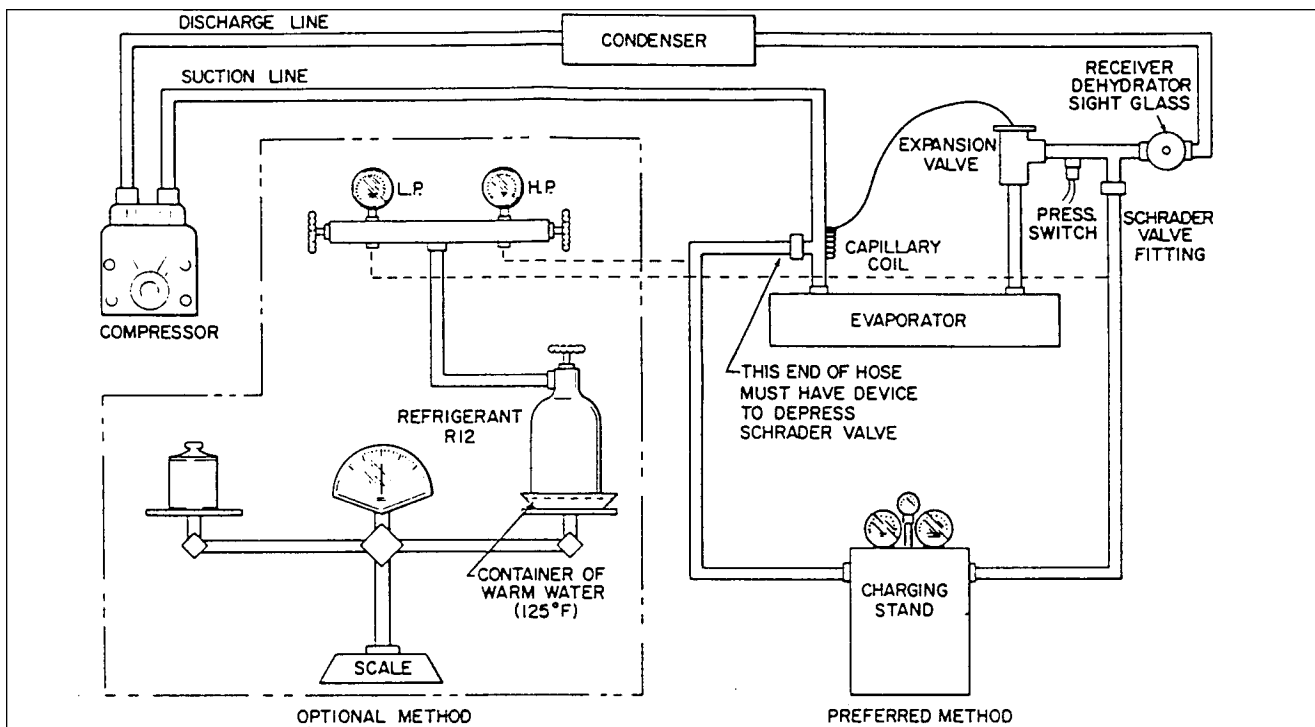

Figure 21-9. Charging Hookup
1. With system discharged and evacuated, hook-up charging stand. (Refer to figure 21-9.)
1. With system evacuated as outlined in Evacuating System, connect refrigerant charging hose to manifold (refer to figure 21-9) and purge charging hose of air.
2. Connect charging hose to refrigerant cylinder and also to Schrader valve fitting on suction line. (Refer to figure 21-9.)